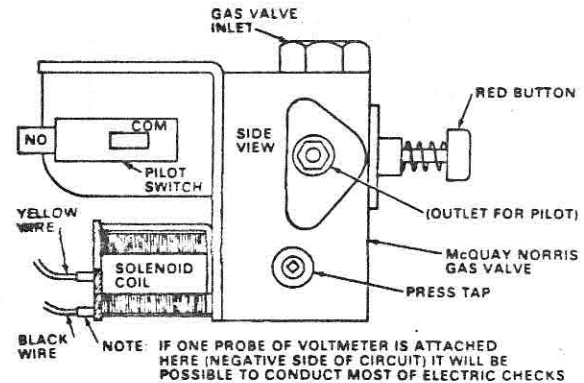

Figure 26c
- a. Clip one probe onto the BLACK wire at the gas valve solenoid coil (negative side of the circuit), place the other probe at "C" (common) on the manual switch. See figure 26c. If voltage is **not** indicated, check the fuse in the wiring box. If fuse is defective replace fuse.